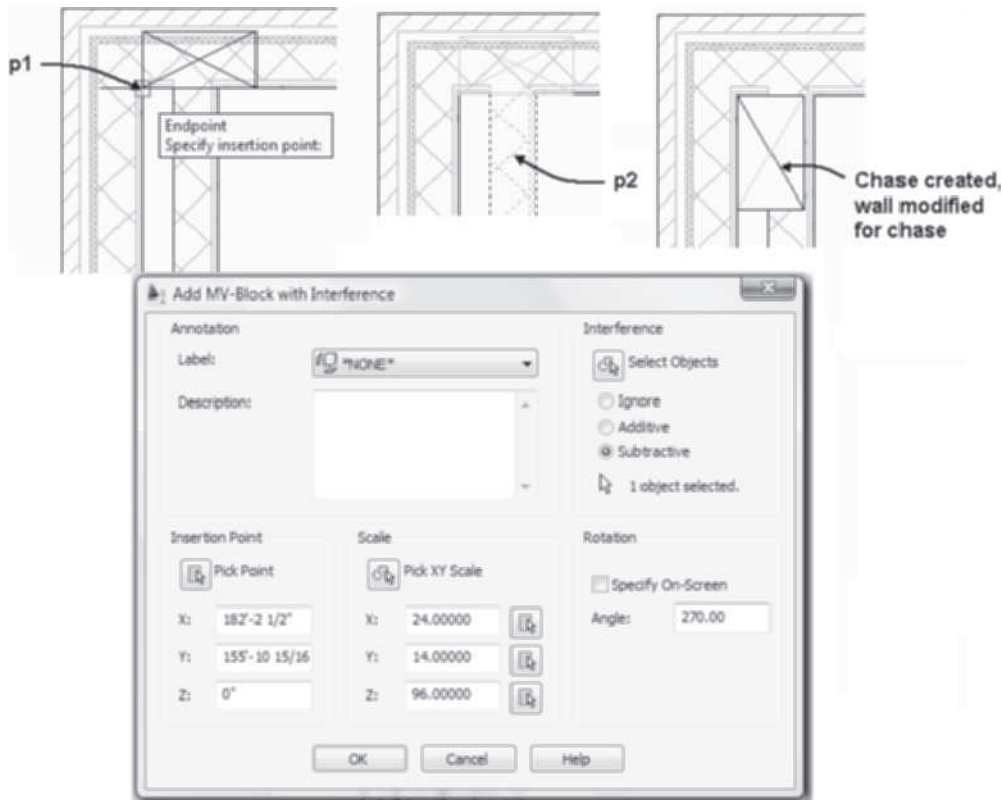

FIGURE 11.31 Add MV-Block with Interference dialog box
When you drag the i-drop for a chase symbol from the **Content Browser**, you are prompted to specify the insertion point and the **Add MV-Block with Interference** dialog box opens. The interference of the chase with walls, spaces, slabs, and roof slabs can be specified as additive, subtractive, and ignore. The ignore interference condition is active only for walls. The size and description of the chase is specified in the **Add MV-Block with Interference** dialog box as shown in Figure 11.31. The size is specified by editing the scale values of the unit block in the **Add MV-Block with Interference** dialog box.
Interference Select Objects—The Select Objects button of the Interference section returns you to the drawing area, allowing you to select AEC objects that may interfere with the chase. **Ignore Additive** and **Subtract** Boolean operations can be applied to the interference between the chase and the selected AEC objects. The chase inserted as shown in Figure 11.31 is applied to subtract from the wall and the shrinkwrap is excluded. The **Ignore** option breaks the wall and the shrinkwrap is applied without regard to the chase, whereas the **Additive** option breaks the wall and includes the shrinkwrap with the chase.
1. Drag the i-drop for **Chase (6)** from the **Content Browser**.
2. Select an insertion point at **p1** as shown in Figure 11.31.
3. The **Add MV-Block with Interference** dialog box opens; click the **Select Objects** button and select the wall at **p2** as shown in Figure 11.31. Press ENTER to end the selection.
4. Edit the **Add MV-Block with Interference** dialog box: specify Rotation = 270 and Y Scale value = 1'-2". Specify Subtractive interference as shown in Figure 11.31.
5. Click **OK** to close the dialog box; the chase is created as shown in Figure 11.31.